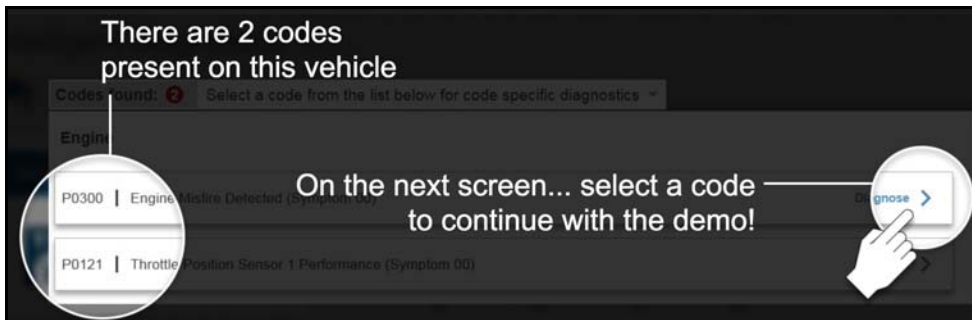

Figure 2-4 Intelligent Diagnostics - Choosing a Code
5. The demo explains that two codes are available in the code list for this demo, and to choose P0300 on the next screen (Figure 2-4). Select “Got It” to continue.